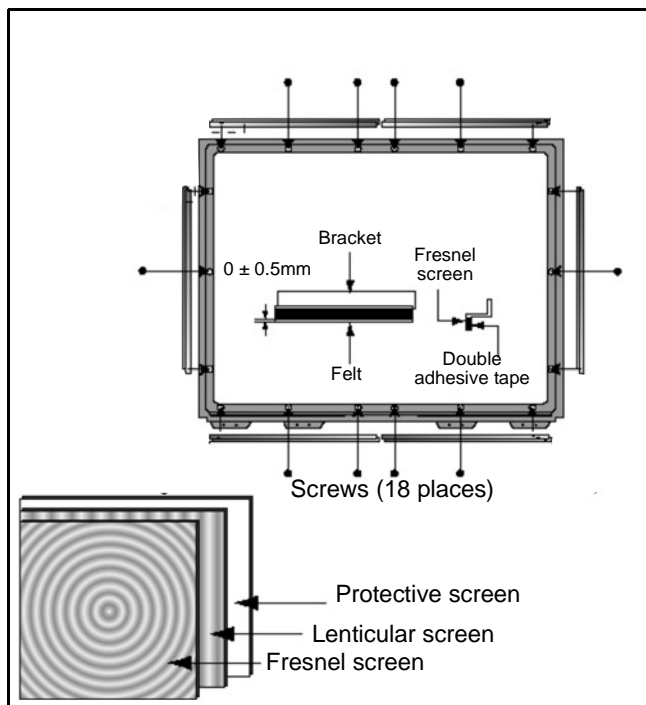

Figure 14. Screen assembly
Screen assembly (figure 14)
4. Note exact orientation and order of each screen. The orientation and order of the screens is critical for displaying pictures properly. Detailed screen assembly can be seen in figure 14.